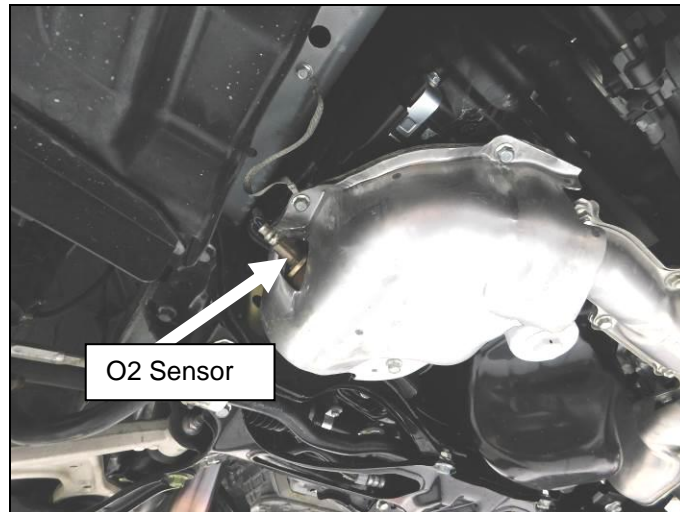

Figure 1
4. Remove the O2 sensor from the exhaust manifold (**Figure 1**).